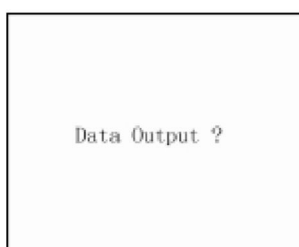

Fig. 2.13
- press **【Enter】** key to access data transmission interface (fig. 2.13);